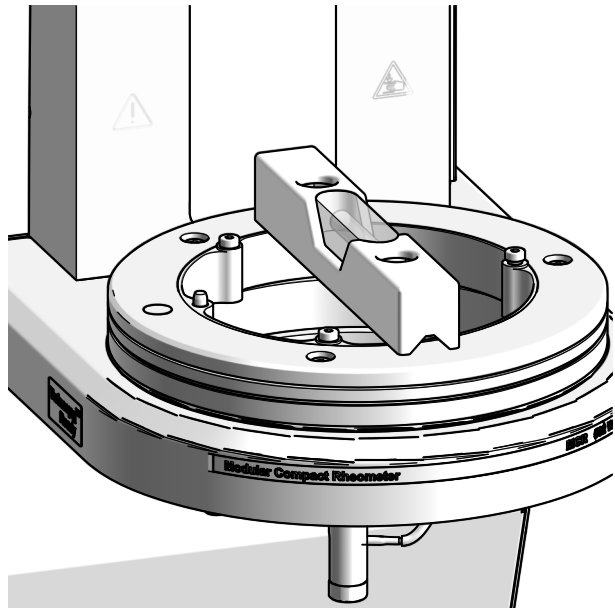

Fig. 7: Water balance perpendicular to back of instrument
- Turn the water level by 90° so that it lies on the flange ring perpendicular to the back of the MCR and check again if the MCR is leveled (Fig. 7). If you are working in the configuration where the removable ground plate (Fig. 2, ⑨) is